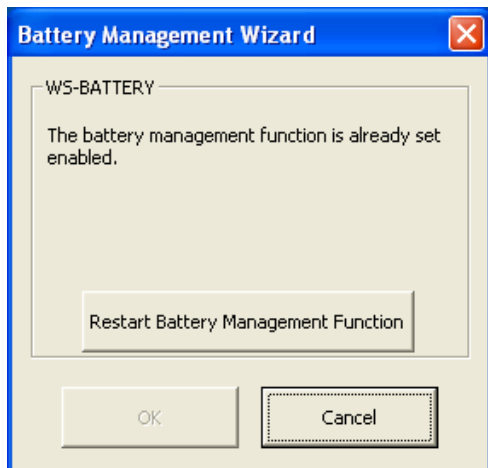

Figure 6b. Dialog Box that Appears when the Battery Management Function is Already Active.
- When the dialog box shown in Figure 6b appears, the battery management function is already set enabled. When connecting the BATTERY PACK to the oscilloscope for the first time, click [Restart Battery Management Function] and go to step 9.